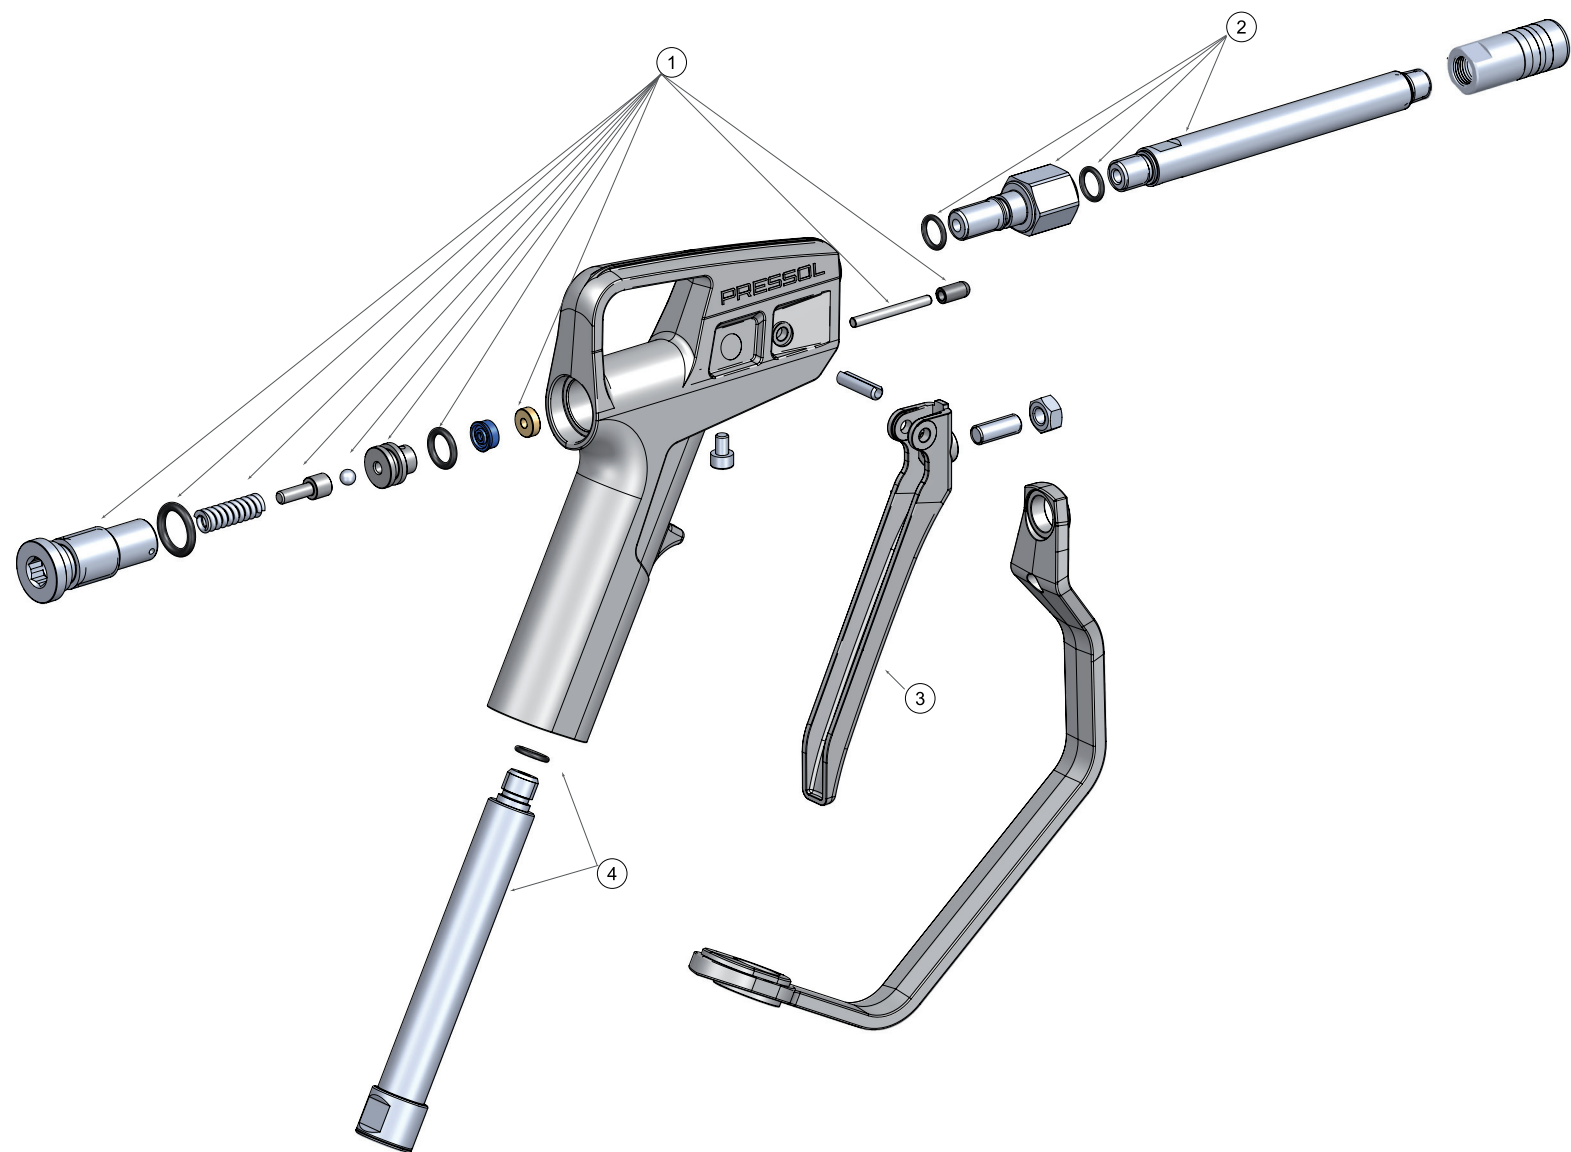

Fig. 1 Grease gun without accessories
3. Ensure that the valve screw (see Fig. 1 grease gun without accessories, page 8) is fully screwed in at the rear of the grease gun.